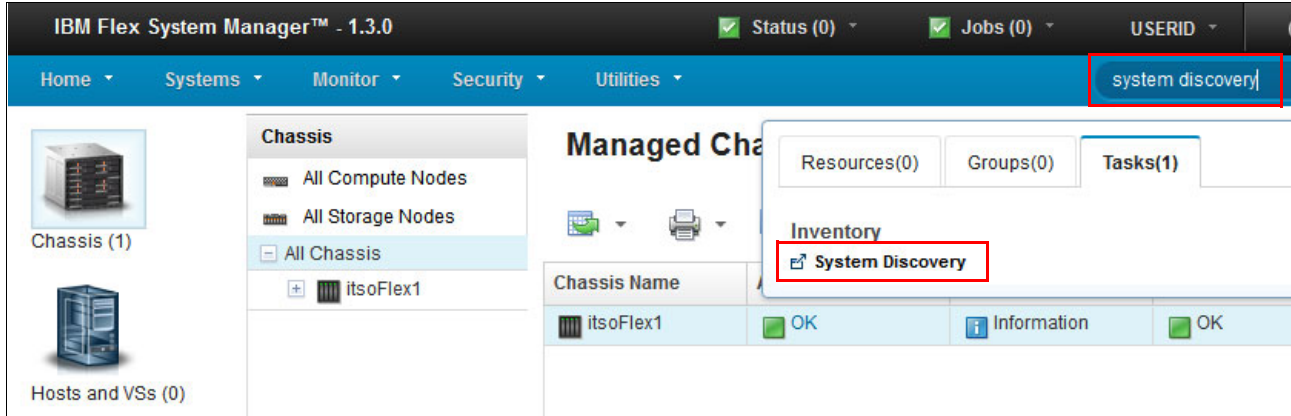

Figure 6-63 FSM Explorer: System Discovery
- ▶ From the FSM Explorer web interface using the search capabilities: Type system discovery in the search box in the upper-right corner of the window, then click **System Discovery** in the Tasks panel, as shown in Figure 6-63.